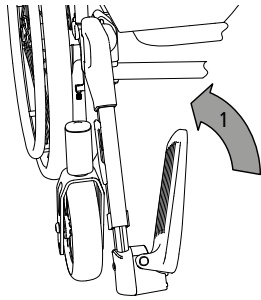

Fig. 7
1. To attach the footboard swing one footplate upwards (1, Fig. 7).